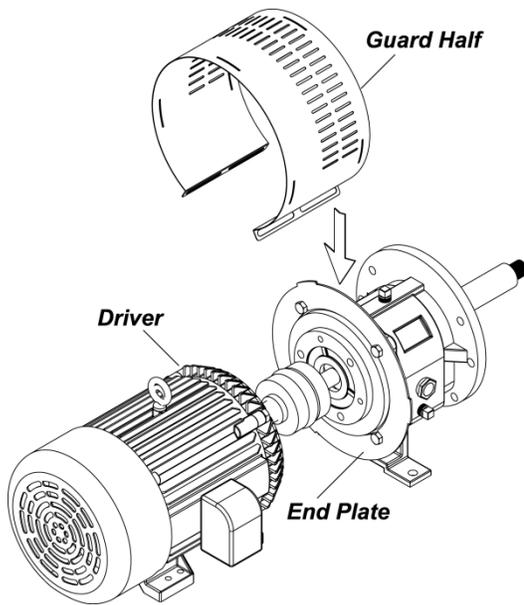
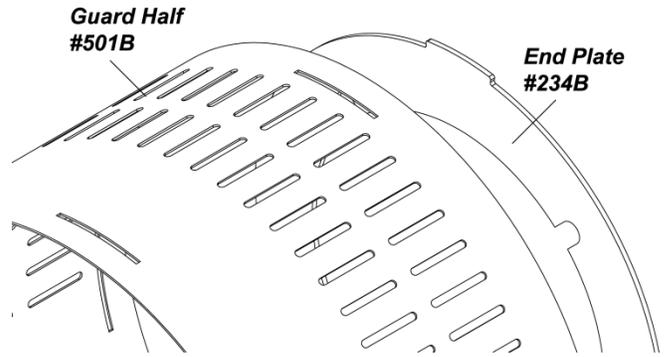

Figure 12-4: Shroud Install
Figure 12-5: Annular Tabs
2. Slightly spread the bottom of the coupling guard half (pump end) and place it over the pump end plate as shown in Figure 12-4. The annular groove in the guard half is located around the end plate. (See Figure 12-5.)